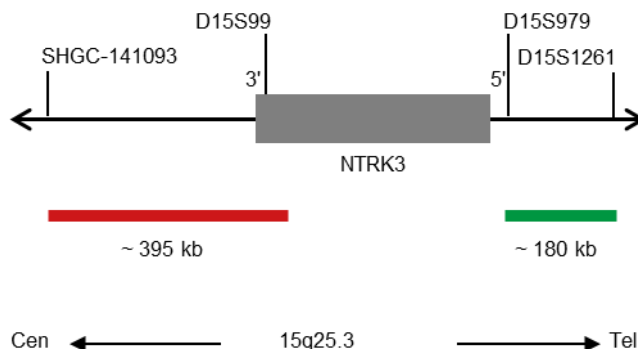

Fig. 1: SPEC NTRK3 Probe map (not to scale)
- Digoxigenin-labeled polynucleotides (~0.50 ng/μl), which target sequences mapping in 15q25.3* (chr15:88,825,346-89,007,107) distal to the NTRK3 breakpoint region (see Fig. 1).
- Dinitrophenyl-labeled polynucleotides (~0.75 ng/μl), which target sequences mapping in 15q25.3* (chr15:88,077,591-88,471,002) proximal to the NTRK3 breakpoint region (see Fig. 1).